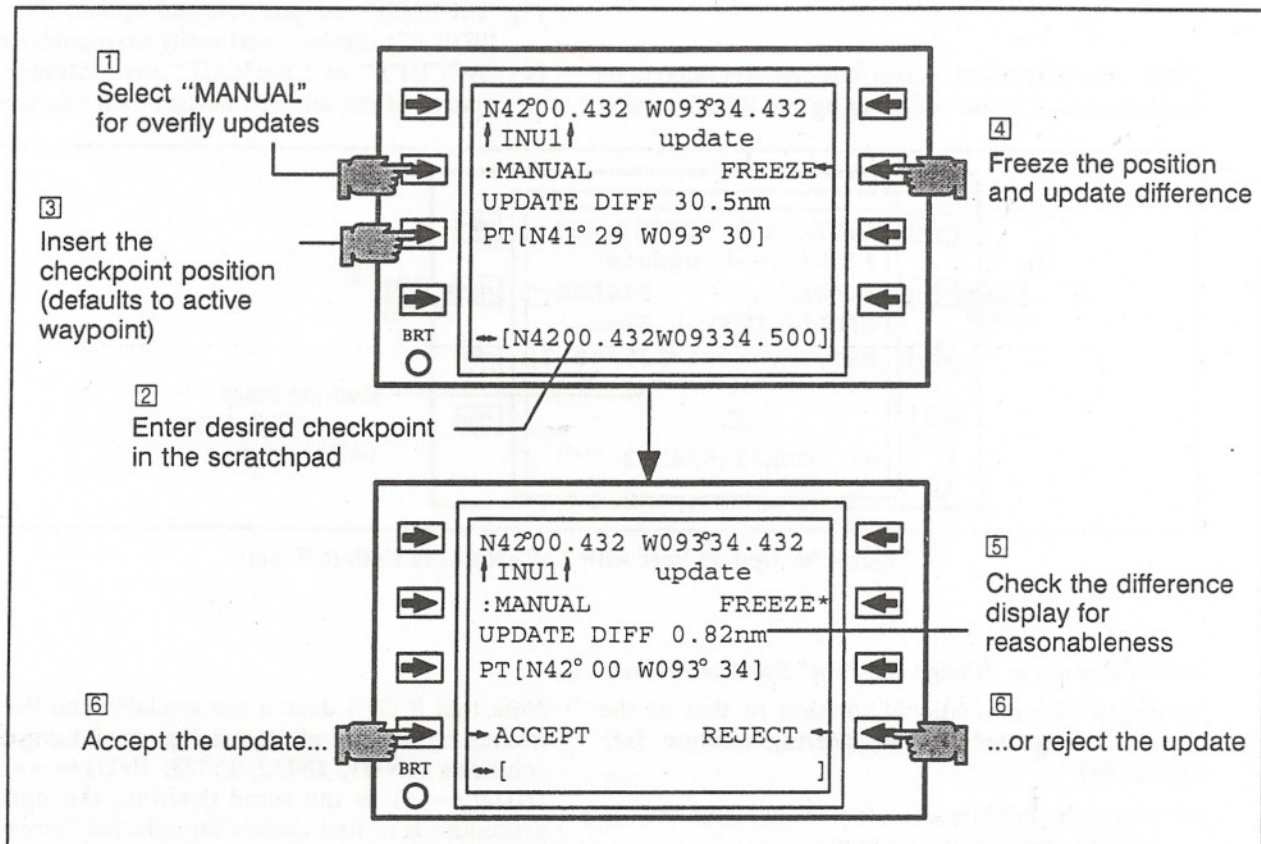

Figure 89 Manual Overfly Position Update
To perform a manual overfly update, (1) toggle the left line select key second from the top to "MANUAL" on the Update Page. The "PT" coordinates automatically default to the current active waypoint in the flight plan. (2) If another checkpoint is desired, enter the coordinates, identifier, or identifier/bearing/distance checkpoint as the "PT", as shown in Figure 89. To return to the active waypoint